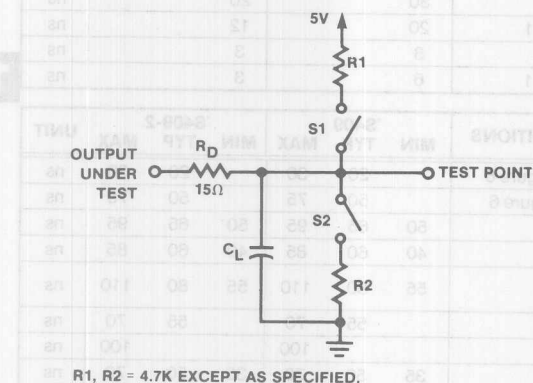

Figure 12. Standard Test Load
**Switching Characteristics:**  $V_{CC} = 5.0V \pm 5.0\%$ ,  $0^\circ C \leq T_A \leq 70^\circ C$  See Figure 12 for test load (switches S1 and S2 are closed unless otherwise specified) typicals are for  $V_{CC} = 5V$ ,  $T_A = 25^\circ C$ .